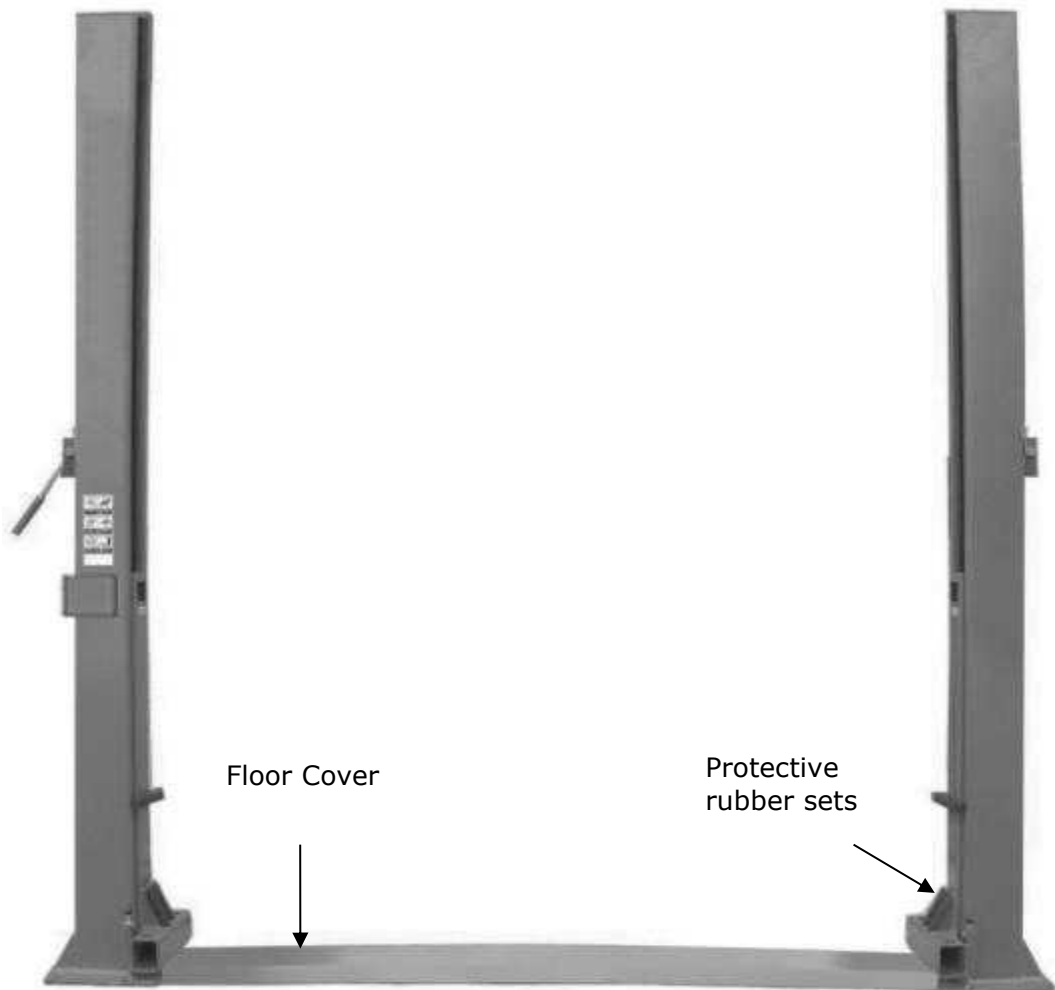

Fig.22
M. Assemble floor cover and protective rubber sets (See Fig. 22).